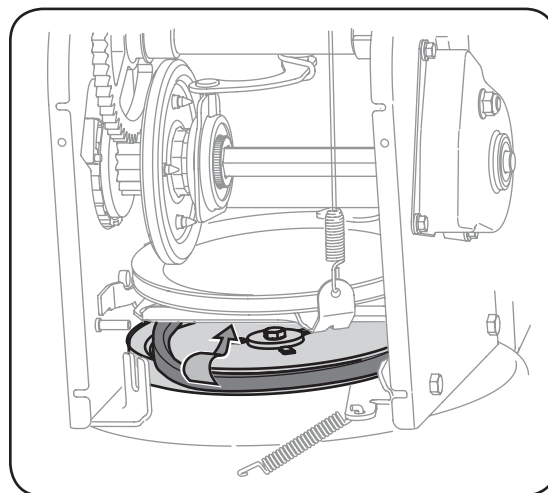

Figure 6-8
3. With the drive control engaged, the friction wheel must contact the drive pulley. See Figure 6-8.
5. Remove the belt from around the auger pulley, and slip the belt between the support bracket and the auger pulley. Reassemble auger belt by following instructions in reverse order. See Figure 6-8.